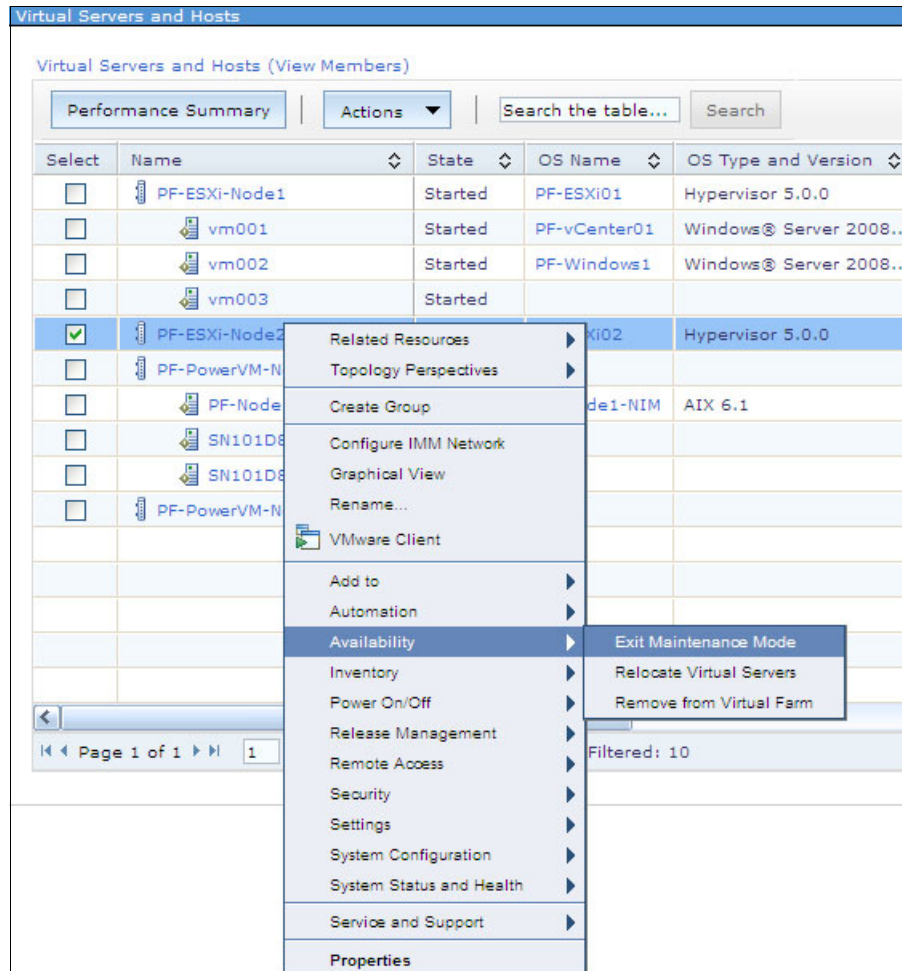

Figure 11-84 Exiting Maintenance Mode
16. Return to the Virtual Servers and Hosts window, right-click **PF-ESXi-Node2** and select **Availability** → **Exit Maintenance Mode**, as shown in Figure 11-84.